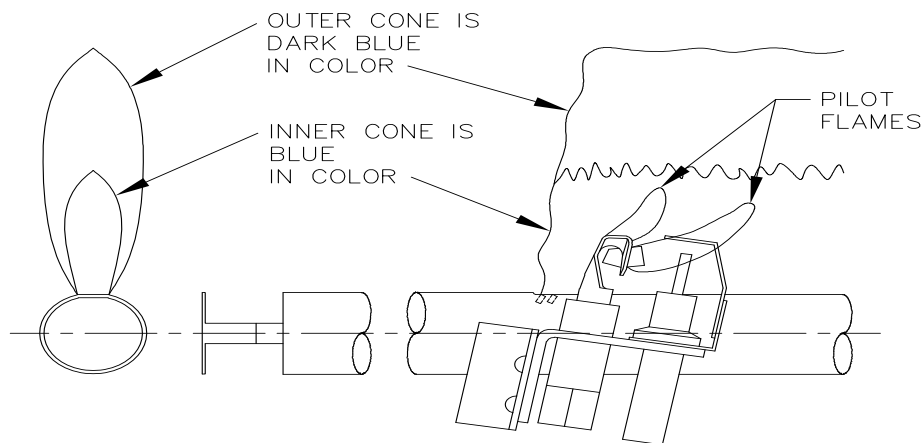

Figure 5: Pilot and Main Burner and Flames
6. Check pilot flame. See Figure 5. The pilot flame should be medium blue covering approximately $\frac{3}{8}$ " to $\frac{1}{2}$ " (10 to 12 mm) of the sensing probe. If the flame is yellow and lazy, follow instructions TO TURN OFF GAS TO APPLIANCE (see Figure 4), and contact qualified service agency.
7. Check main burner flames. See Figure 5. The flames should have clearly defined inner cones approximately 1½" (40 mm) high and should have a very sharp blue color characteristic. If the flame is yellow and lazy, follow instructions TO TURN OFF GAS TO APPLIANCE (see Figure 4), and contact qualified service agency.